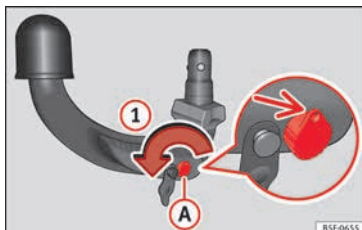

Fig. 219 Step 1
- Turn the key in the direction of arrow ① until the part of the key with the holes reaches the top position » Fig. 219.